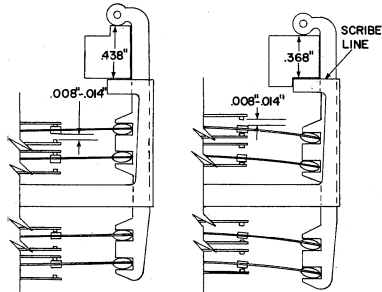

Figure 3
2. With the .438" side of the gauge inserted (Figure 3), all open contacts except the commons should be formed for .008" to .014" clearance to the center movable contacts.
3. With the .368" side of the gauge inserted (Figure 3), the open contacts should be formed for an .008" to .014" gap.